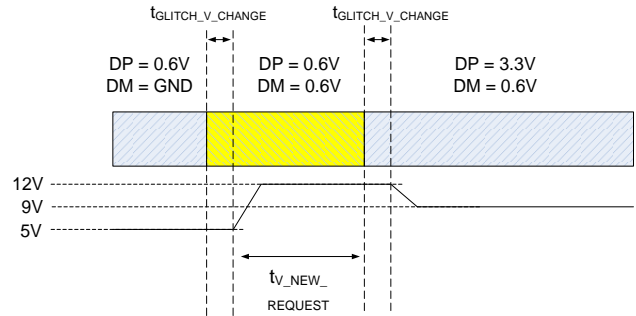

Figure 10: QC Mode Transition
If the downstream device supports QC specifications, then the device can require a V_{OUT} above 5V by communicating with MPQ4228-Q’s DP and DM pins (see Table 2). If a higher USB V_{BUS} is required, then the ADJ pin needs to be used to adjust the buck V_{OUT} . The ADJ pin is typically connected to the feedback (FB) pin of the upstream voltage converter. After the handshake, ADJ adjusts V_{OUT} to 9V to 12V or any other voltage step by step (200mV/step). In smart controller mode, only one ADJ pin can set a high voltage that meets QC specifications. The V_{OUT} transition is smooth, and does not have any voltage undershoot/overshoot. Figure 10 shows the mode transition.